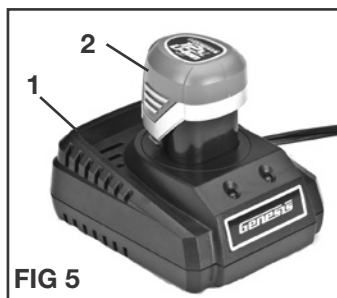

FIG 5
Charging the Battery (FIG 5)
- Plug the charger (1) into a 120 Volt AC Power Source. The green light on the charger will illuminate, indicating the charger is powered.
- Insert the battery (2) into the slot on the charger (1) as shown on FIG 5. Make sure that the battery is seated firmly in the charger. The red light on the charger will illuminate, indicating that the battery is charging.